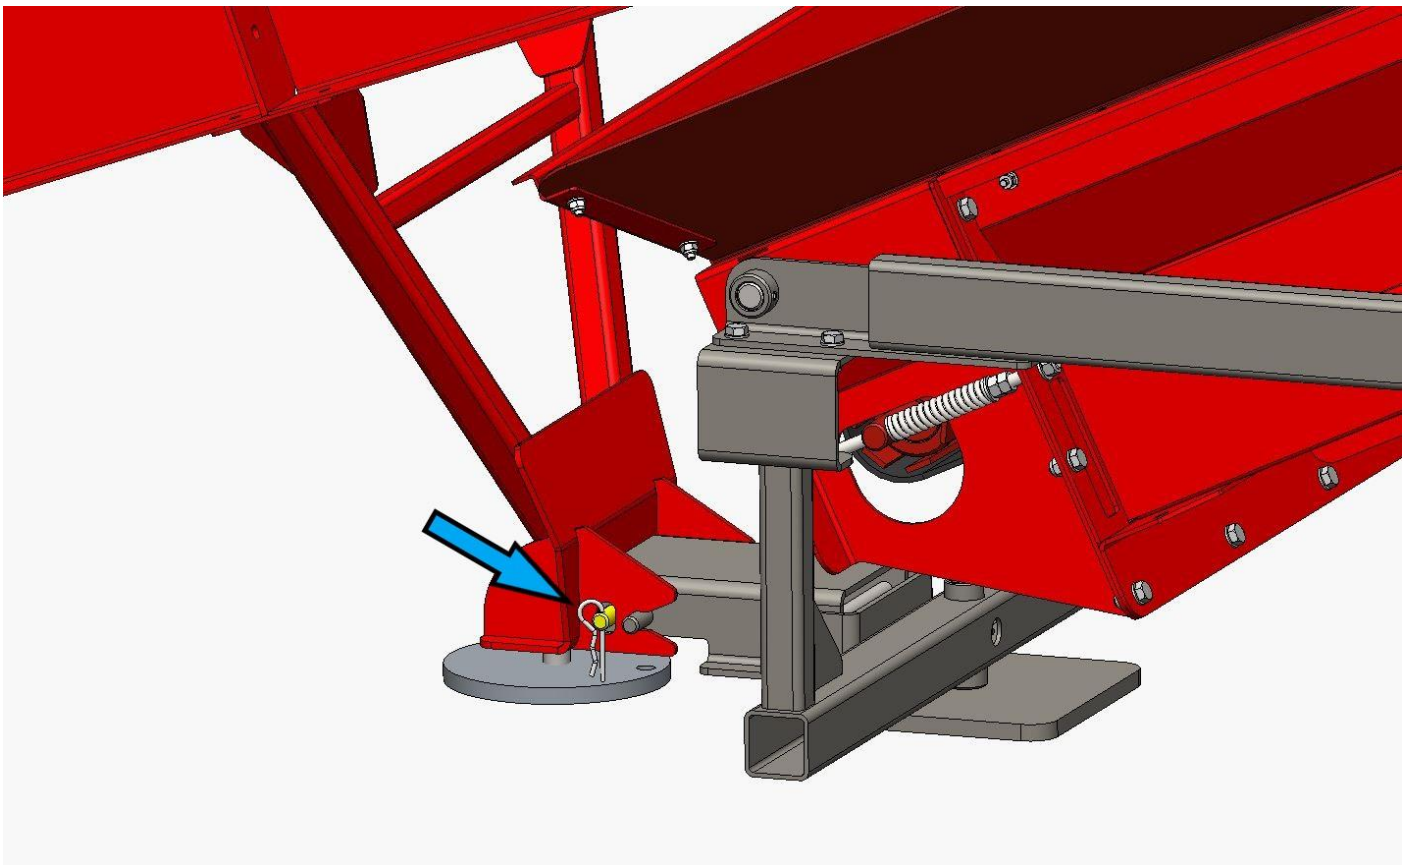

Figure 1.
1. Connect the conveyor to the firewood processor with a rod and pin, as shown in Figure 1.
The running speed of the out-feed conveyor can be freely adjusted with adjustment screw C (Figure 3). If the conveyor is jammed for any reason, the conveyor must be stopped with lever B (Figure 1) and the machine shut down before the cause is removed. If the issue is at the end of the conveyor (a piece of wood is stuck between the conveyor and possible extension conveyor), the conveyor belt can be reversed for a short distance with lever B (Figure 1).